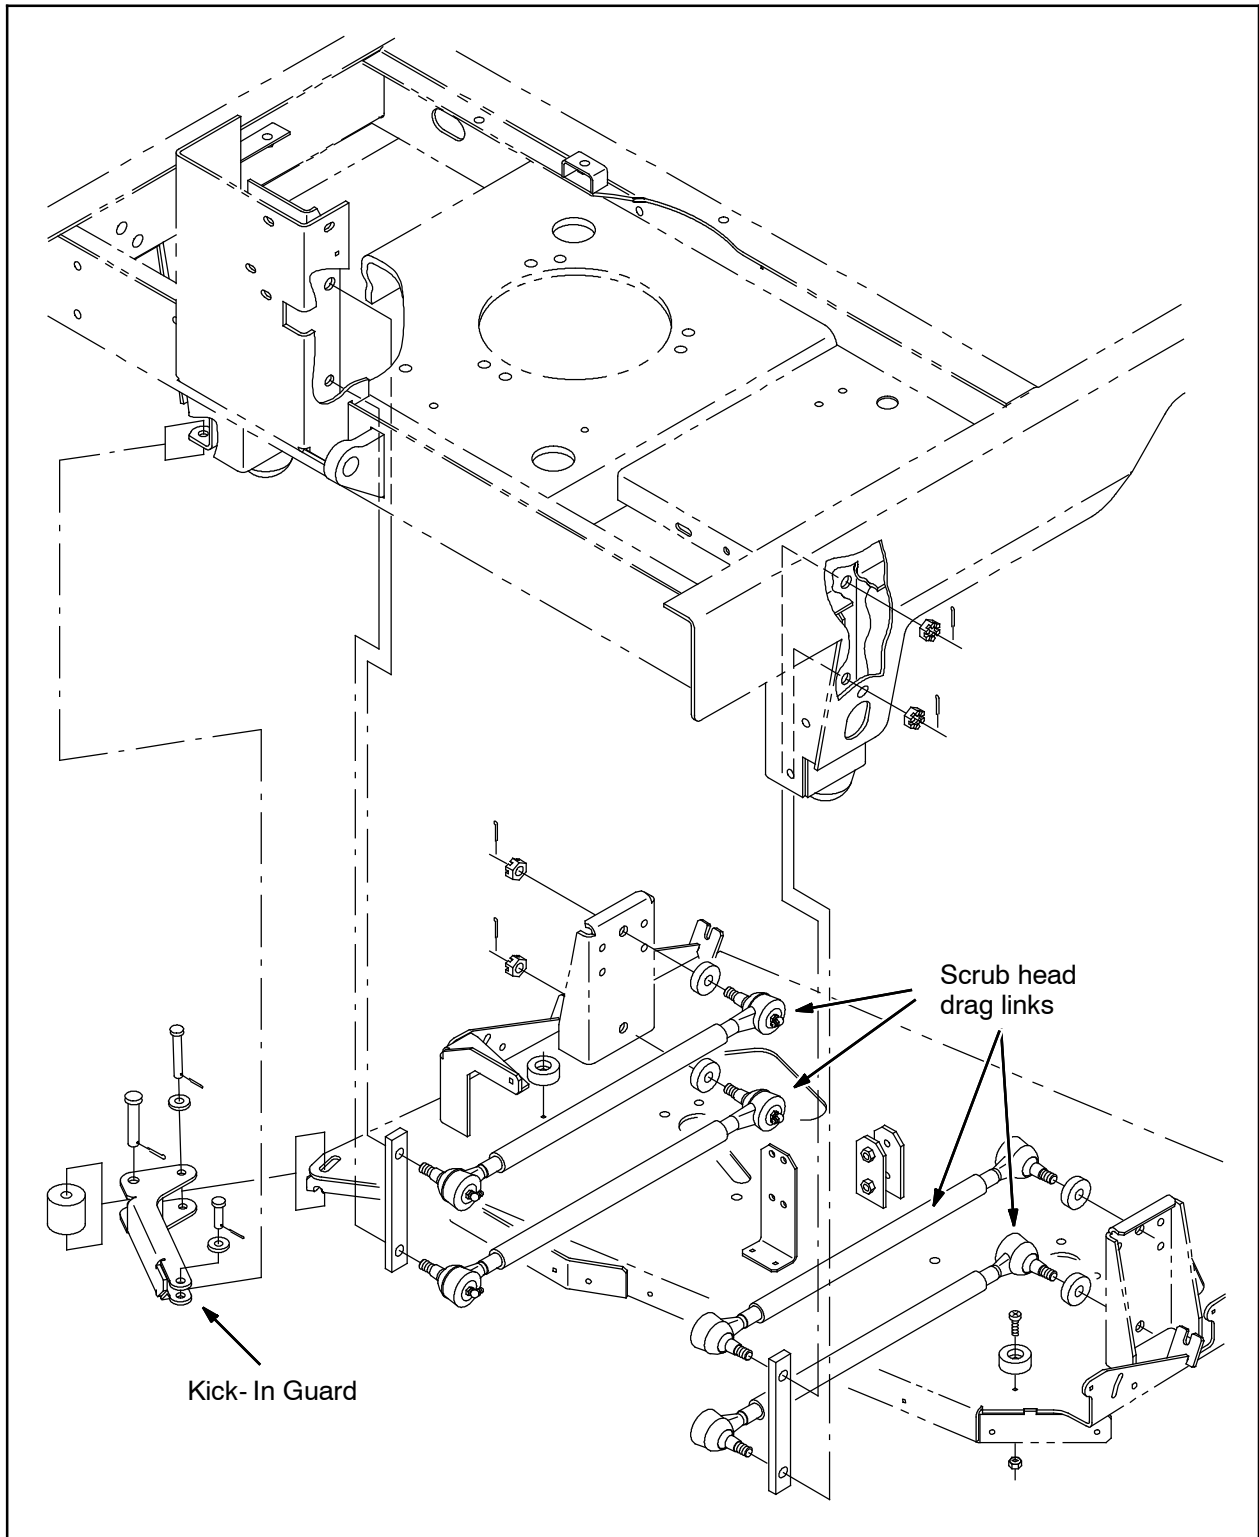

FIG. 2 - Max Pro 1000 HD Scrub Head Linkage Group
14. Pull the drag links out of the frame mount holes. (Fig. 2).
6. Position the four scrub head drag links into the frame mounting holes. (Fig. 2)
7. Reinstall the slotted nuts onto the ends of the scrub head drag links, where they attach to the machine frame. Tighten the nuts tight. Reinstall the cotter pins. (Fig. 2)
15. Use the saved clevis pin to reconnect the kick in guard to the scrub head. (Fig. 2)